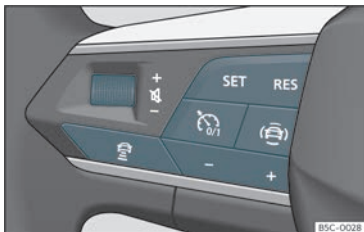

Fig. 161 On the multifunction steering wheel: buttons to operate the ACC
Your vehicle has ACC if it has a configuration menu in the infotainment system»» page 88 and if it has the ACC function buttons on the multifunction steering wheel»» Fig. 161.
- To start regulation, press the button **SET** >>> **Fig. 161**.
To program the speed, press the + or - >>> **Fig. 161** buttons to the desired speed. The speed is adjusted at intervals of 10 km/h (5 mph).
- Press the button and then the button + or - >>> **Fig. 161**.